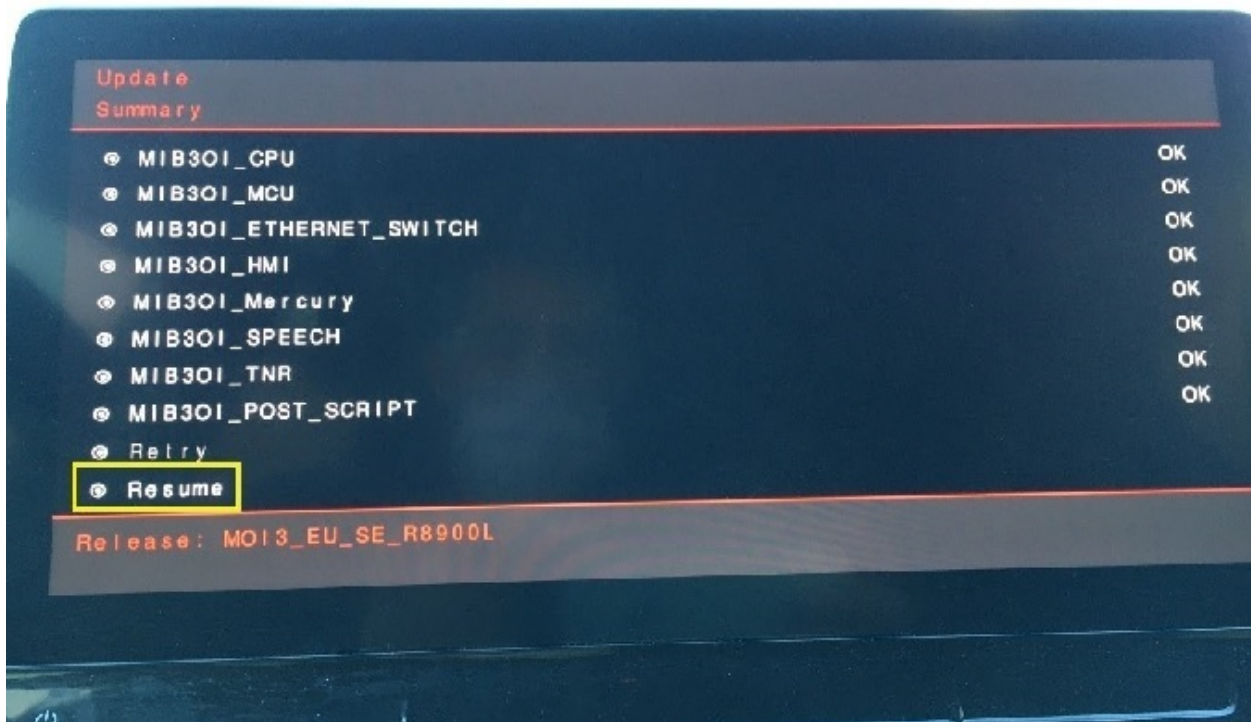

Figure 4: "Update Summary" of the radio and navigation system
- Press the button: "**Resume**" (see Figure 4, yellow rectangle).